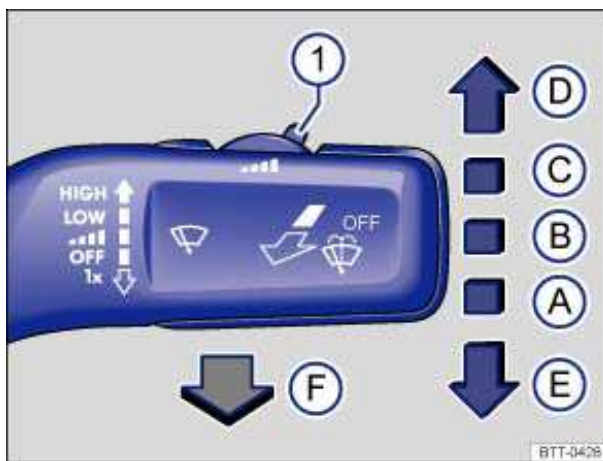

Fig. 101 Operating the front windshield wiper.
- Press the windshield wiper lever down briefly ⇒ fig. 101 (E) when the ignition is off.
Carefully fold the wiper arms back onto the windshield before driving! Switch the ignition on and press the windshield wiper lever down briefly ⇒ fig. 101 (E). The wiper arms move back to their original position.